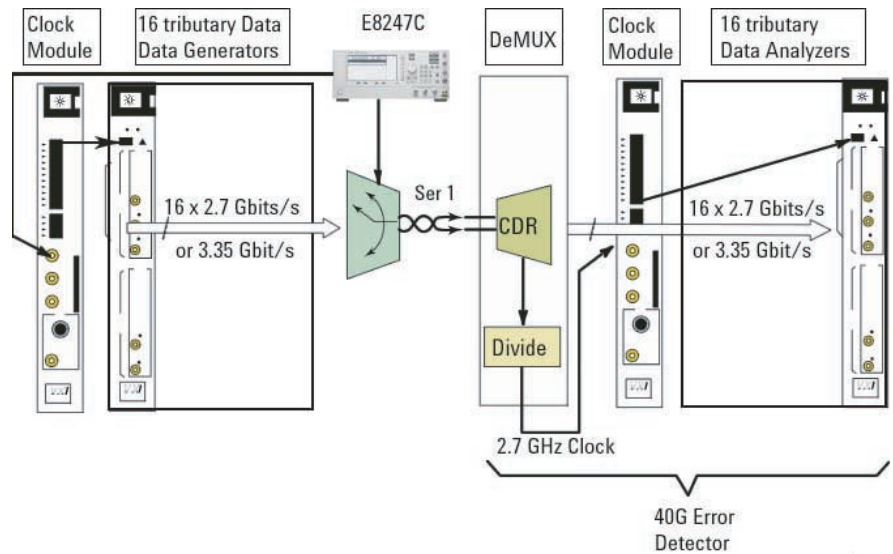

Figure 13: MUX test setup with internal MUX
Several alternatives are available for an internal or external clock source, as shown in Figs. 13 and 14.
1. External Clock: This is the most flexible setup (Fig. 13) external signal generator, eg E8274C, which provides a master clock with improved phase noise characteristics.